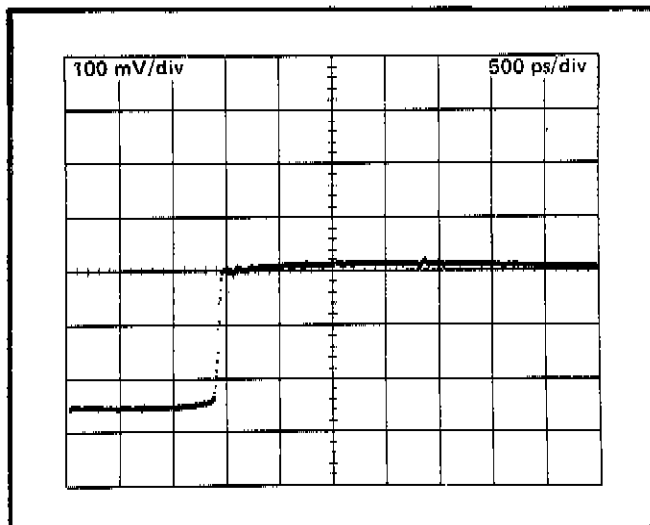

Fig. 2-2. PULSE OUTPUT leading edge (50 Ω terminated).
12. Adjust the Type 3T2 Trigger Sensitivity control for a stable triggered display of the S-52 output pulse leading edge (about 200 mV amplitude). Change the Type 3T2 Time Magnifier to X20 (500 ps/div). Use the Time Position control to position the leading edge to the left side of the display. Use the Type 3S2 DC Offset control to position the top of the pulse at the graticule centerline. See Fig. 2-2.